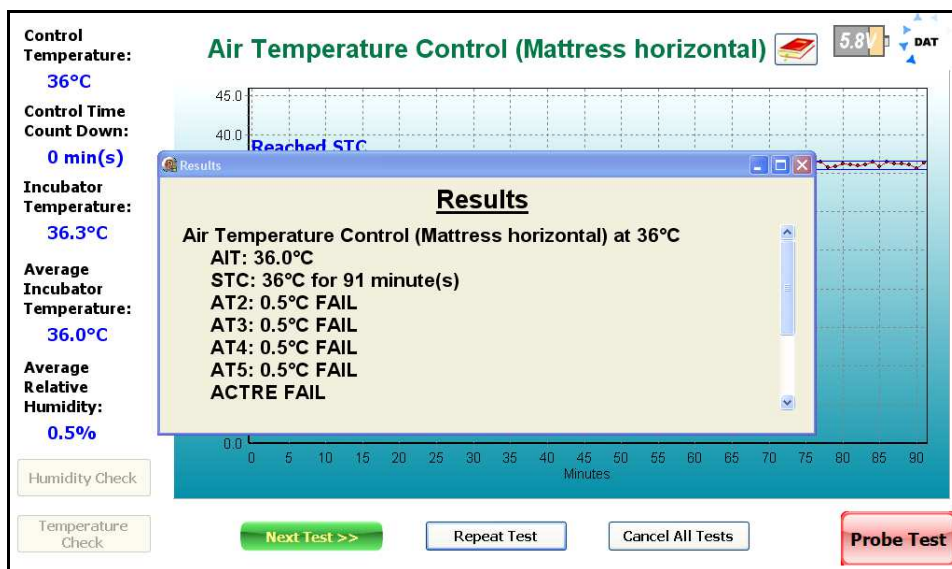

Figure 40: Air Temperature Control Result Summary
At the end of the test, the **Results** summary will be displayed, **Figure 40**. In addition to the **Average Incubator Temperature (AIT)** and the length of time that **STC** was true, IncuTest will also report other values required by the Standard. The terms **AT2 - AT5** refer to the **Average Temperature** at each of the locations in the centers of the four quadrants of the mattress. These averages are calculated in a similar manner to the **AIT** value, from the temperatures measured at locations T2 - T5. These averages must not differ from the **AIT** by more than 0.8 °C when the mattress is horizontal, or by more than 1 °C if the mattress is tilted. The term **ACTRE** refers to the **Air Temperature Control Regulation Error**, and is checked according to the Standard section 8, clause 50.107. **ACTRE** is an indicator of the ability of the incubator to control the temperature at the value set as the **Control Temperature (CT)**. The Standard requires that difference between the **AIT** and the **CT** be not more than  $\pm 1.5$  °C.